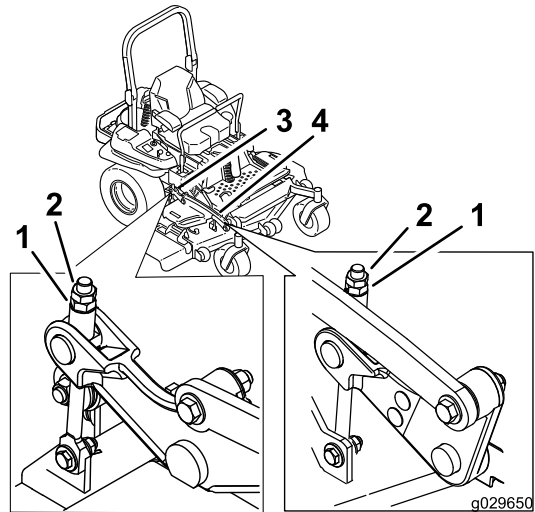

Figure 95
11. Fine-tune the adjuster screw by turning it to get 7.6 mm (3 inch) height (Figure 95).
17. Fine-tune the adjuster screw by turning it to get 8.3 mm (3-1/4 inches) height (Figure 95).